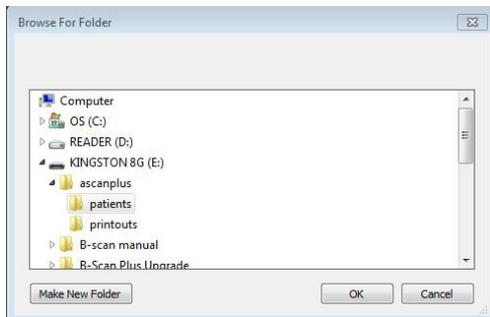

Figure 5.12 - Windows Browser - Locate Exam Folder
2. The Accutome A-Scan Plus Connect will launch a Windows browser as shown in Figure 5-12 below. Using the browser, locate the folder where you would like to restore exam data.